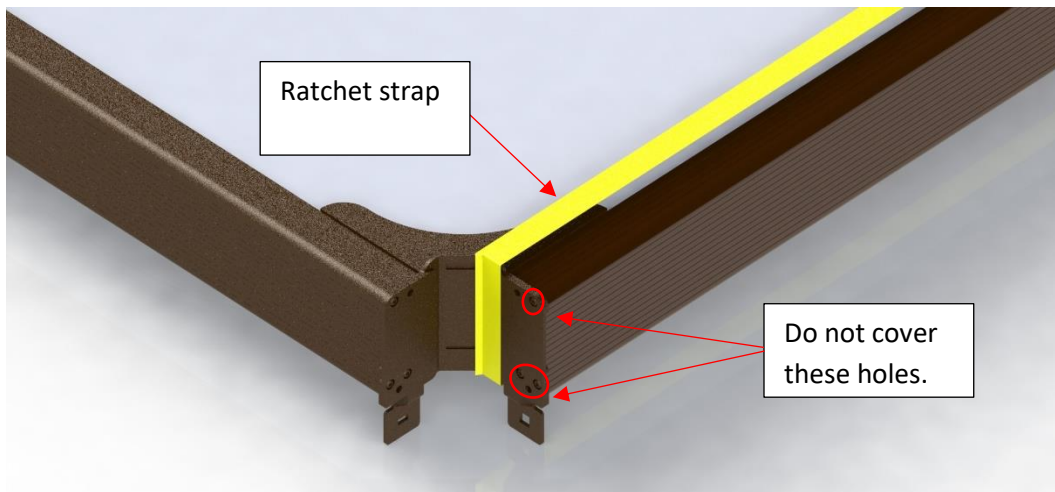

Figure 15
34) Install the ratchet straps on each side of the Evolution. The ratchet straps must bind the Evolution at the corner brackets like shown in Figure 15.